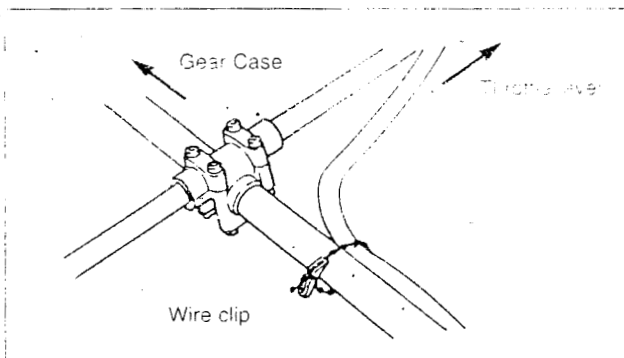

Fig. 9
5. Secure the throttle wire with the wire clip as shown in the figure for easy operation. (Fig. 9)